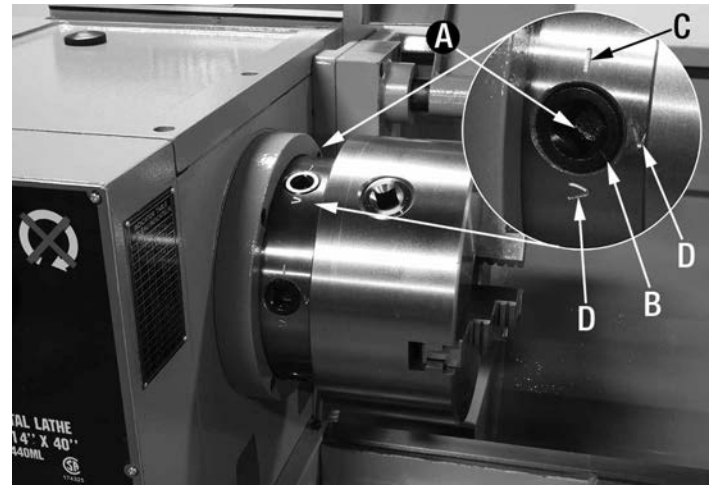

FIGURE 8
All the camlocks (A) Fig.8 should be in their release position, the camlock mark line (B) line up with the spindle nose mark line (C). Mount the chuck or faceplate onto the spindle nose, once in position, each camlock must be tightened and locked into place. Camlocks (A) are tightened by turning them clockwise using the provided Camlock Key. The cams are properly locked into place when the camlock mark line (B) is in between the 2 V's (D) on the spindle nose, see Fig.8.